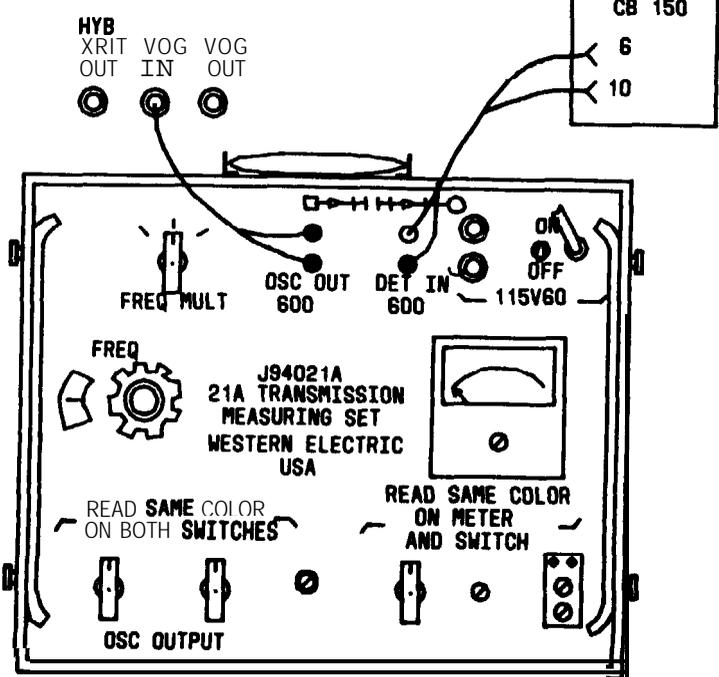

FIG. 3
- [40] CONDITION TMS FOR 1-MW OUTPUT AT 1200 CYCLES (DLP-548) AND CONNECT TEST EQUIPMENT A8 SHOWN IN FIG. 3